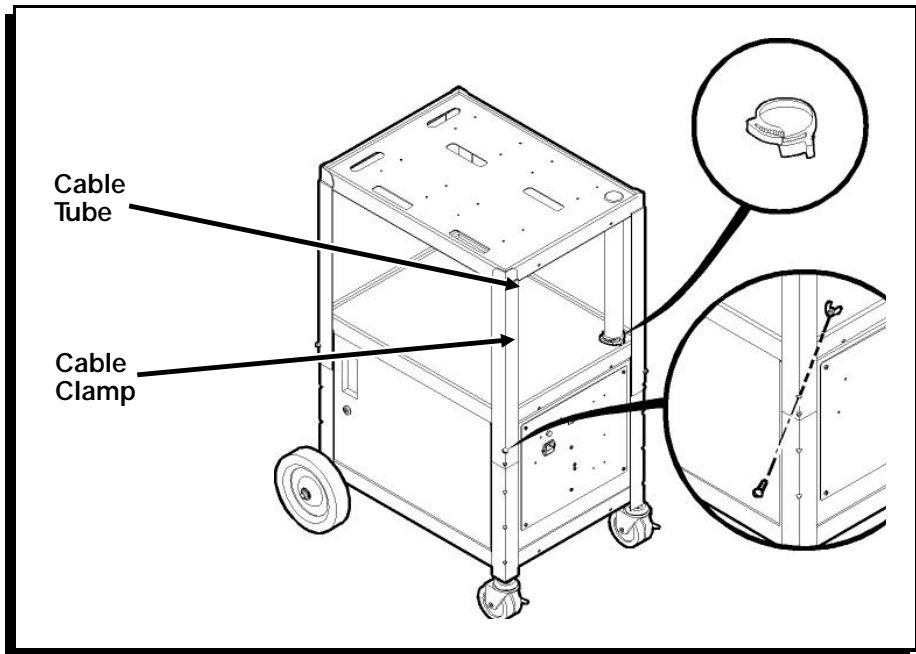

Figure 3
- ◆ (1) plastic cable-tube clamp (may already be attached to the cable tube)
4. You might need another person's help with this step. Lift the top shelf to the second-highest height adjustment. Make sure the cables inside the cable tube feed freely as you lift the top shelf. Insert bolts into the holes in all four legs and fasten them with wing nuts as shown. (Figure 3.)
5. Attach the plastic cable-tube clamp around the bottom of the cable tube as shown (if it is not already attached). Squeeze the finger grips to lock the clamp around the cable tube. Use pliers to secure the cable clamp tightly. (Figure 3.)